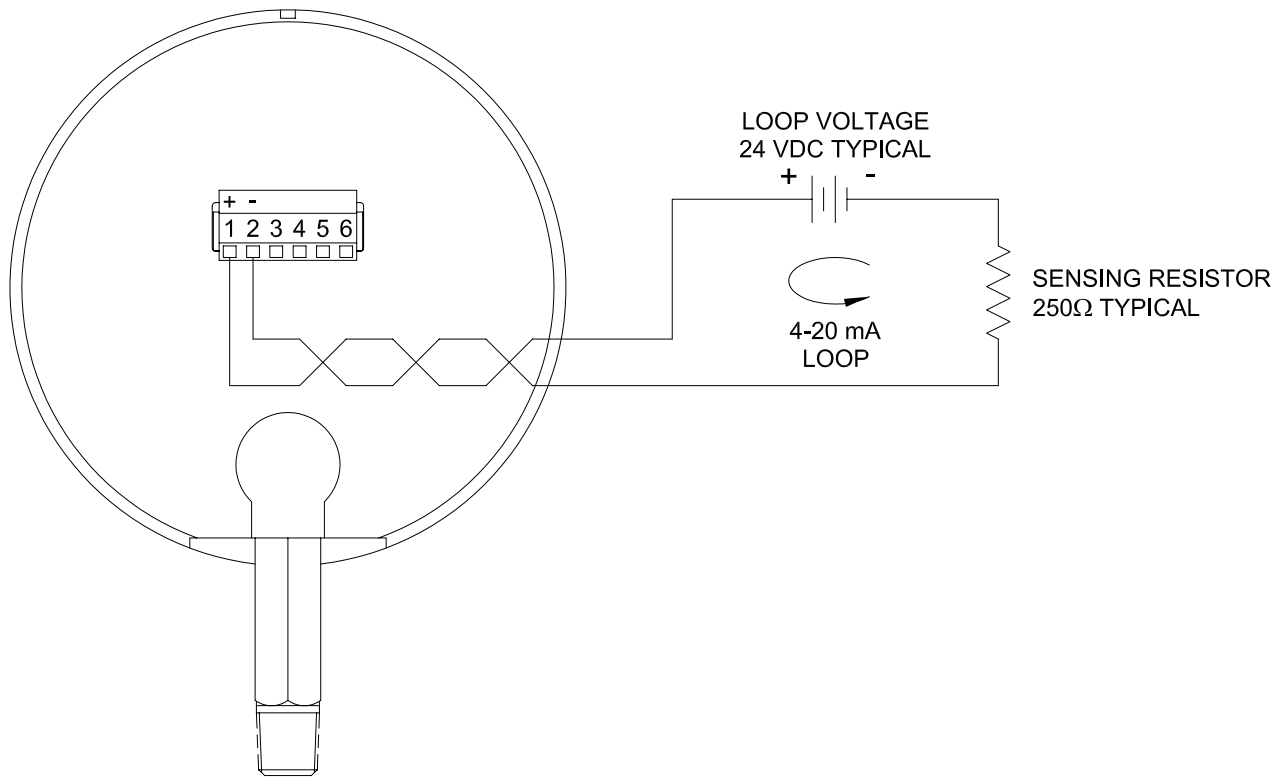

Figure 3
- 3.1 LOOP WIRING - The DPS-1591DP digital pressure gauge is designed to transmit analog 4 to 20mA signals over an industry standard 2-wire current loop for the control of valves, actuators, and other devices commonly used in process control. The gauge also is powered directly from the two wires of the current loop. Connect the loop wires to terminals 1(+) and 2(-); power requirement is 10 to 32 Vdc, 24 Vdc nominal. See wiring diagram figure 3. The loop is protected against open and short circuits and reverse wiring. The maximum load resistance that can be tolerated in the loop is determined by the supply voltage, but should not exceed 1000 ohms. See figure 4 for the maximum load resistor vs. the supply voltage.